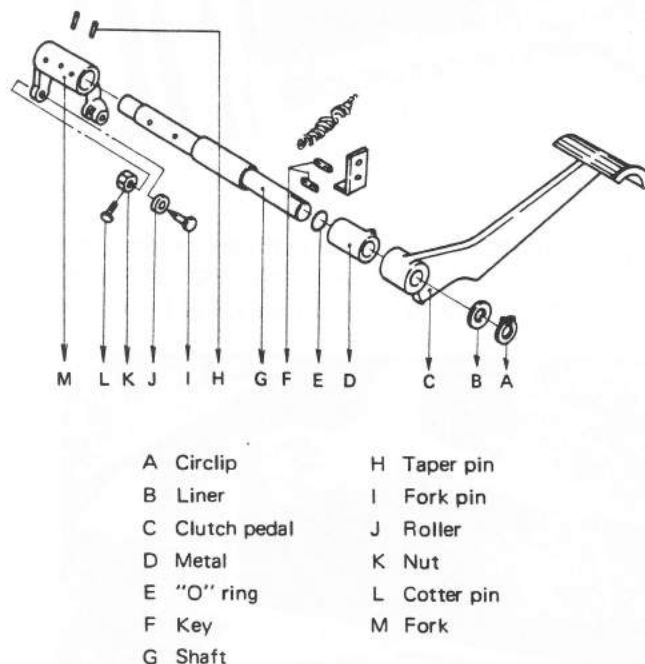

Fig. 11 Pedal Mechanism
Then drive out the key (see Fig. 11).
To remove the fork from the shaft, pull out two taper pins (H) shown in Fig. 11 with a special tool (1700T03 SPRING PIN INSTALL AND-OUT TOOL), pull out the cotter pin (L), unscrew the nut (K), and remove the roller (J) and the fork pin (I).
1. Follow the reverse procedure of "Clutch Pedal Mechanism Disassembling", seeing Fig. 11. In this case use new taper pins (H).
2. Clean the fork pin (I) and shaft (G) sliding parts and apply grease to them.